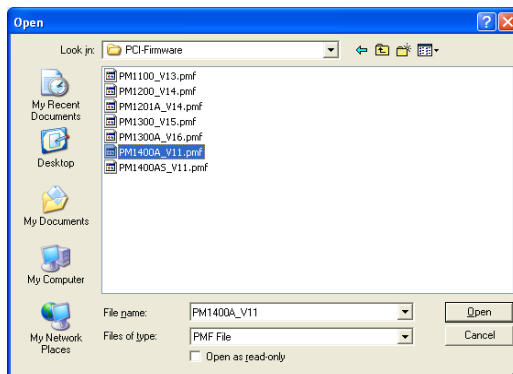

Fig.26
- Click on the "Load PMF" button to find ".pmf file" which the firmware matches the PCI control board. For example, with PM1400A control board, messages will show as in (Fig.26)